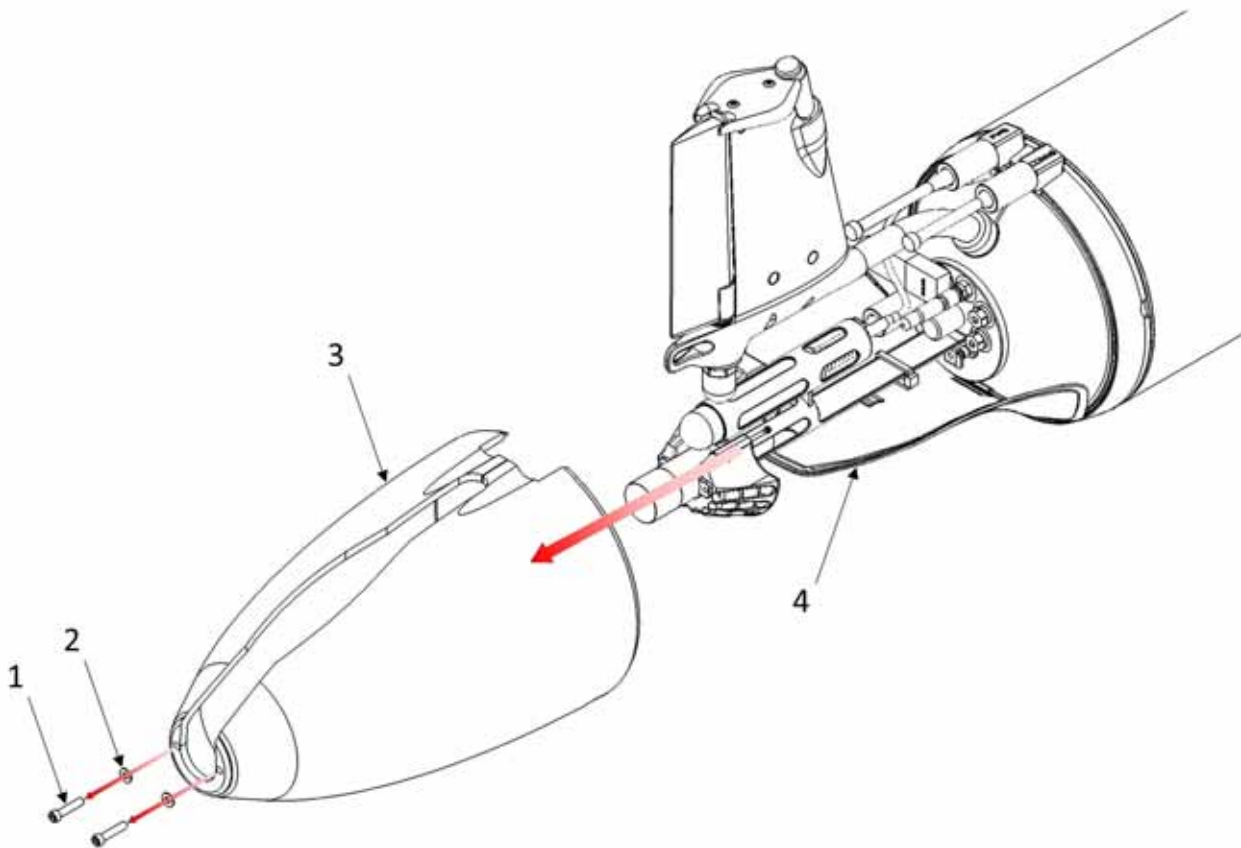

Figure 2-23 Aft cowling.
1. The air bladder (Figure 2-23, Item 4) must be deflated in order to remove the aft cowling (Figure 2-23, Item 3). To deflate the air bladder, type `put c_air_pump 0` from `lab_mode` or `GliderDOS`.
2. The glider should be powered down before removing the aft cowling (Figure 2-23, Item 3).
4. Remove the two 10-32 socket head cap screws (Figure 2-23, Item 1) and washers (Figure 2-23, Item 2) that hold the aft cowling (Figure 2-23, Item 3) in place using the 5/32" x 12" red T-handle hex wrench.
5. Pull the aft cowling (Figure 2-23, Item 3) back, gently separating it at the top to allow it to slide over the antenna tail fin.
1. Slide the aft cowling (Figure 2-23, Item 3) forward, gently separating it at the top to allow it to slide over the antenna tail fin.
2. Insert the two 10-32 SHCS (Figure 2-23, Item 1) and washers (Figure 2-23, Item 2) that hold the aft cowling (Figure 2-23, Item 3) in place.